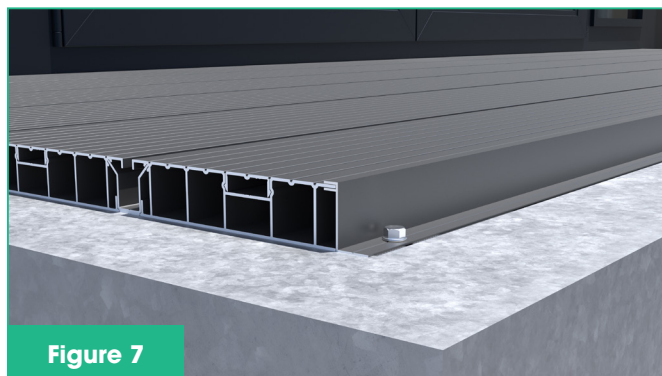

Figure 7
- Secure using Cut Down Clips, fixed back to the bearer system (Figure 7).